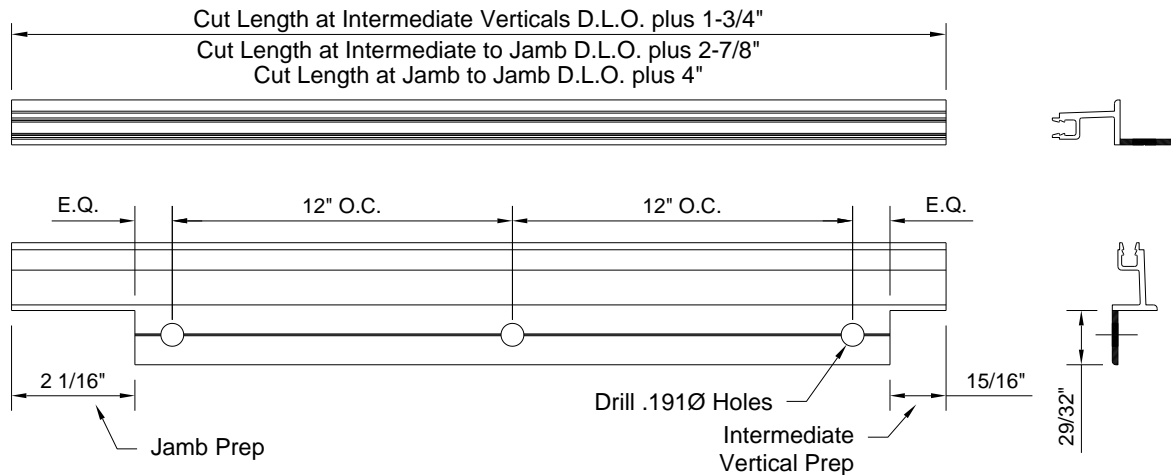
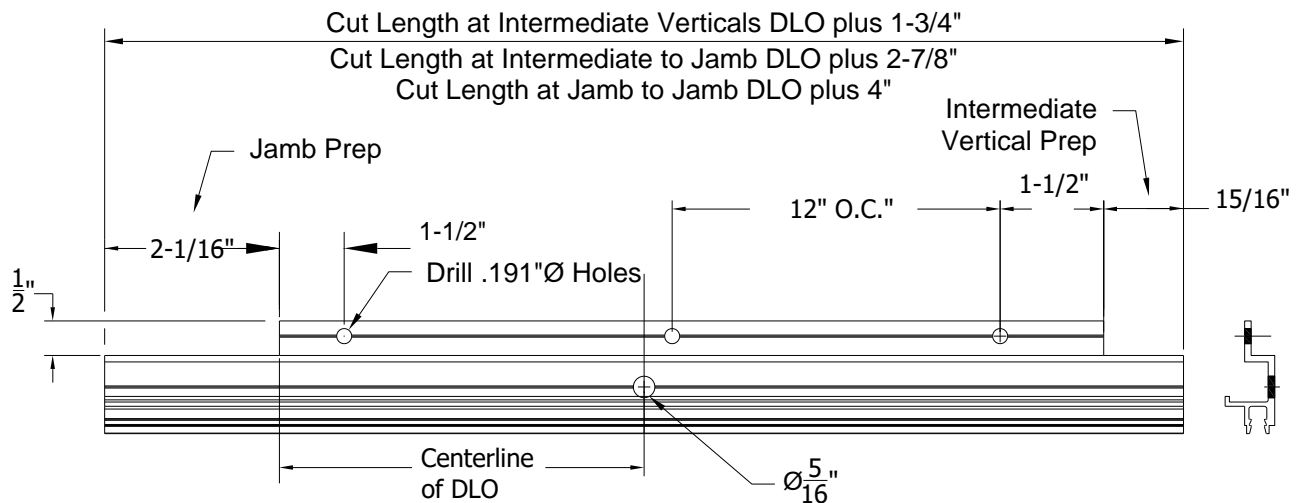

Figure 21: RL-257 Fabrication
Figure 22: WW-258 Fabrication
- 12.1 Bellows gasket retainers, RL-257 & WW-258 will be fabricated to run from mullion center to mullion center except at jambs. These will be cut to extend full width of jamb mullion. A 1/4" joint will be located between retainers at each intermediate mullion. Retainers will be cut D.L.O. plus (+) 2" at jambs and D.L.O. plus 7/8" at each intermediate vertical. RL-257 will be notched to clear mullion as shown in RL-257 Fabrication *Figure 21*. WW-258 will be notched to clear mullions as shown in *Figure 22* below. Notch 2-1/8" at Jambs and 15/16" at Intermediate Vertical Mullions.
- 12.2 RL-257 upper gasket retainer will be square cut typical, miter as required at corners. Drill #11 (.191) holes at 12" on center. See *Figure 21*.
- 12.3 WW-258 lower gasket retainer will be square cut typical, miter as required at corners. Drill #11 (.191) holes at 12" on center for attachment. 5/16" dia. weep holes must also be drilled in upper channel at centerline of day light opening. See *Figure 22*.